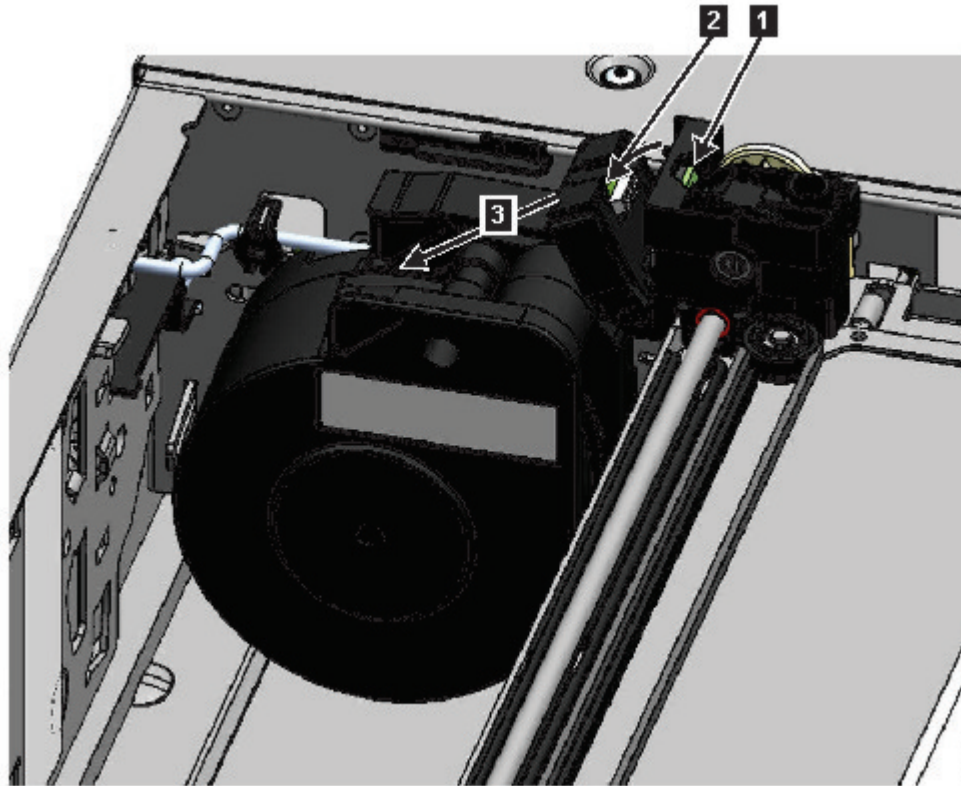

Figure 74. Unlocking the spooling cable and placing it in its cradle
- On the top of the accessor where the spooling cable is attached, press down on the latch (**1** in Figure 74 on page 123), then tilt out the piece that holds the spooling cable (**2**).
8. Lift the spooling cable from the accessor and place it in its cradle at the top of the spooling mechanism (**3** in Figure 74).